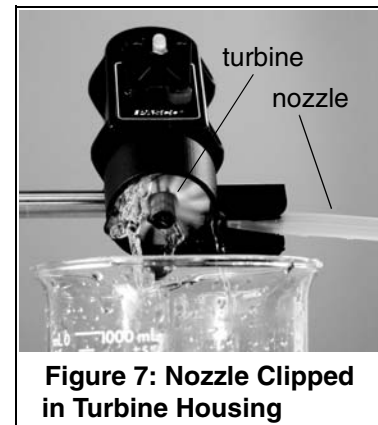

Figure 7: Nozzle Clipped in Turbine Housing
4. Connect the nozzle to a piece of tubing connected to an external water supply. (Figure 7).